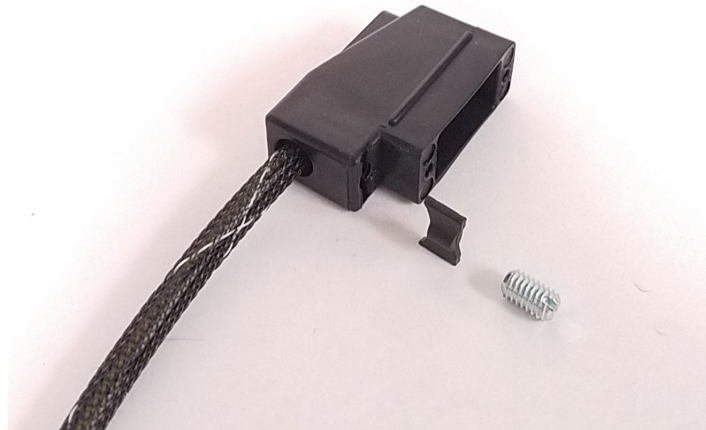

Figure 3-18
23. Insert and tighten the cable retention clamp on the servo connector backshell as seen in Figure 3-18.